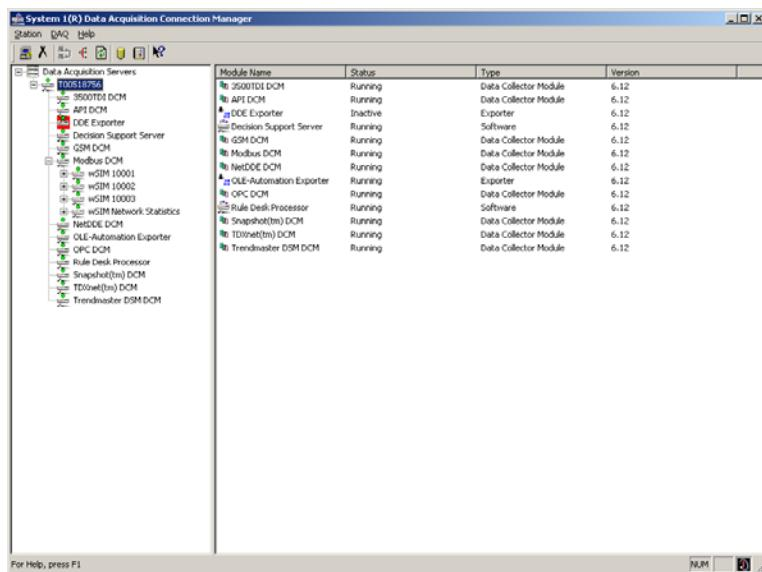

Figure 4-6: Running System 1® DAQ
6. Verify settings by Expanding the DAQ segment, see Figure 4-6.
- i. The three (3) wSIM and one (1) Network Statistics Modbus devices just installed are shown.